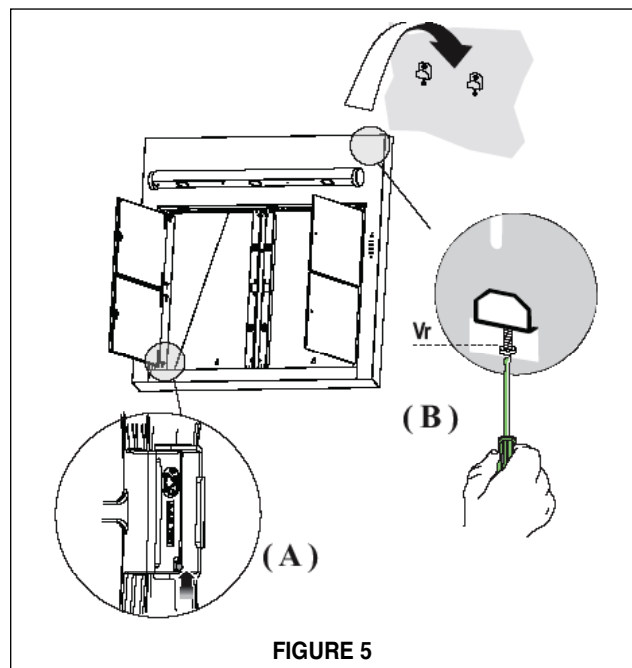

FIGURE 5
1. Open the ducting panels on the rangehood. Disconnect the 4 panels from the hood by sliding the fixing pin lever (as indicated in (A) **FIGURE 5**).
3. Adjust the two adjusting screws on the mounting hardware (B in **FIGURE 5**) to the lowest point
4. Hang the rangehood on the two mounting screws and from the inside of the hood, adjust the mounting screws to make the hood level (B in **FIGURE 5**).
2. Place the 4 ducting panels back onto the hood (**as indicated in FIGURE 5**)